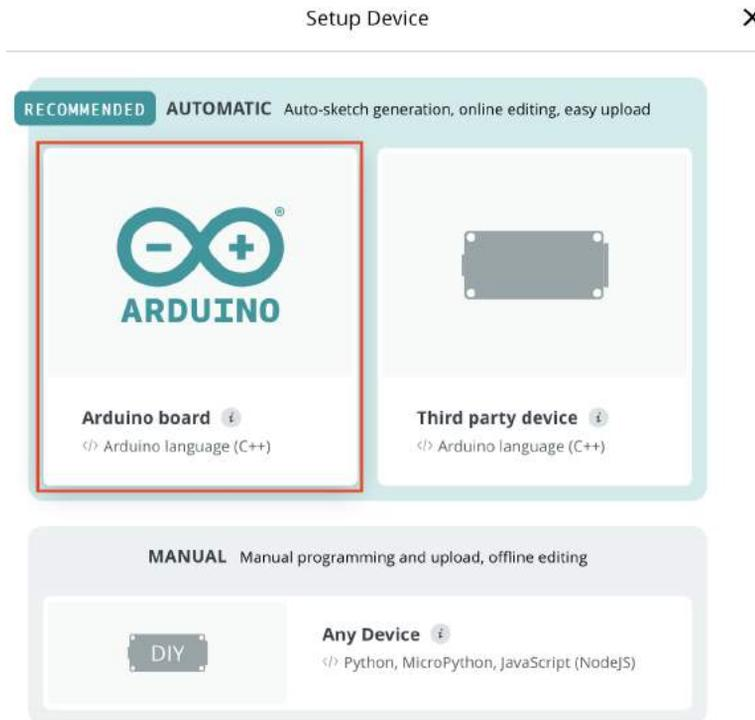
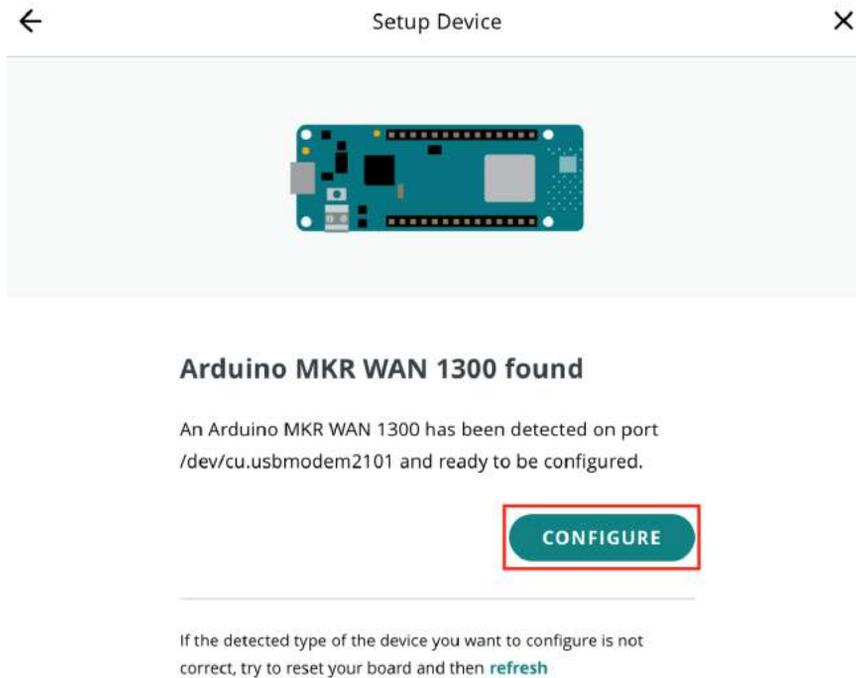

Figure 6.10 – Choosing a development device
Figure 6.11 – The device found
- Click on **Arduino board** (marked with a red box in *Figure 6.10*) and the next step will automatically detect the MKR WAN 1300 board, which we are using in this chapter. Before adding the device, make sure that **Arduino Create Agent** is running on your machine. *Figure 6.11* shows that the Arduino IoT Cloud detected the MKR WAN 1300.